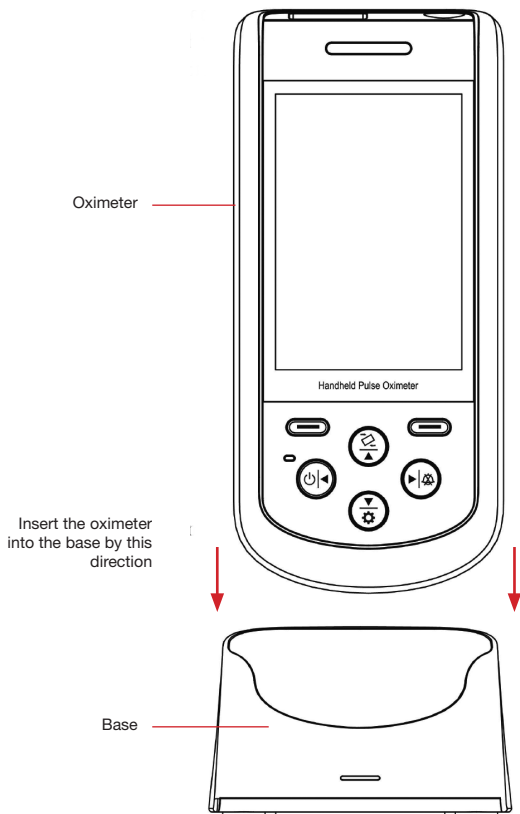

Figure 2.2 Connection between oximeter and base
- 2) Put the device into the base properly, and pay attention to the polarity markings, as shown in figure 2.2.